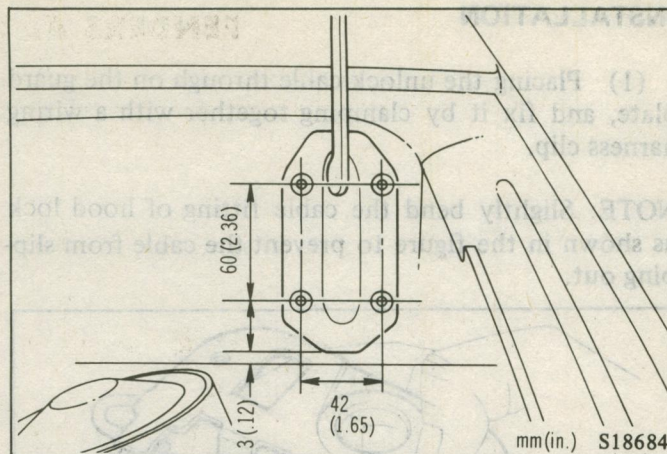

Fig. 19 Hinge Attaching Position
(2) Mark the center of the hinge attaching positions on the front deck, as shown in the illustration, (Fig. 19) and drill four 8 mm (5/16 in.) mounting holes.